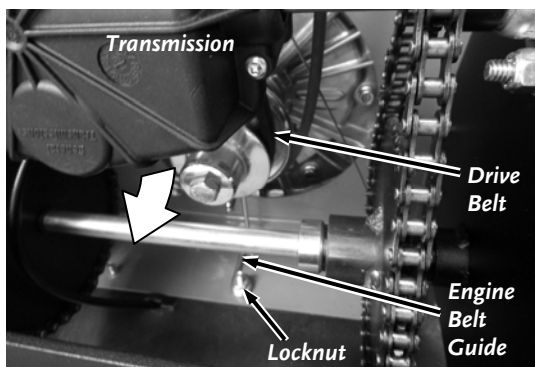

Figure 31
6. Loosen the Engine Belt Guide Locknut using a 7/16" Wrench and rotate the Guide out of the way (Figure 31).